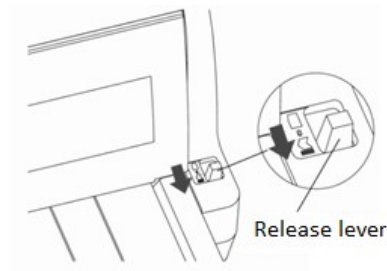

Fig. 2-4
- 1) Check the position of release lever, adjust the lever to the front (chain paper icon position) as Fig. 2-4.